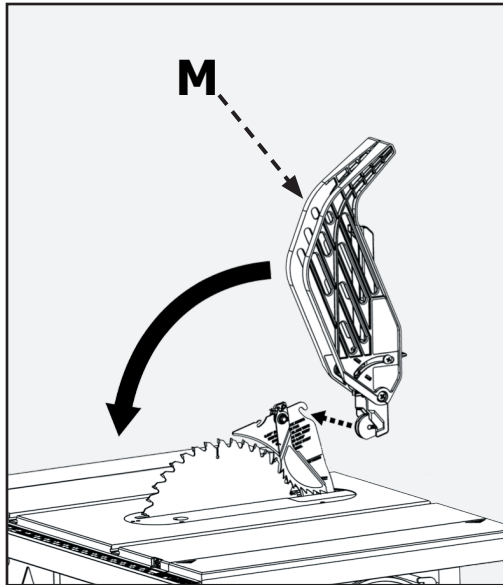

FIGURE 20
1. While holding the blade guard assembly (A) in a vertical position, hook the locating pin (B) at the back end of the blade guard assembly into the slot at the back edge of the riving knife.
2. Rotate the blade guard assembly toward the front of the saw until the metal portion (C) of the blade guard assembly is parallel to the table as shown in Figure 20.
3. While holding down on the front of the metal portion of the guard (C) press the blade guard lock lever (D) down until it snaps into the locked position. Check to make sure the guard is locked onto the riving knife by pulling on the guard. If the guard is not locked, the blade guard lock lever will flip up to the unlocked position.
**⚠ WARNING:** If the metal portion of the blade guard assembly (C) is not parallel to the table, the riving knife is not in the raised position. Remove blade guard assembly and anti-kickback pawls and raise riving knife, then reinstall the antikickback pawls and the blade guard assembly.